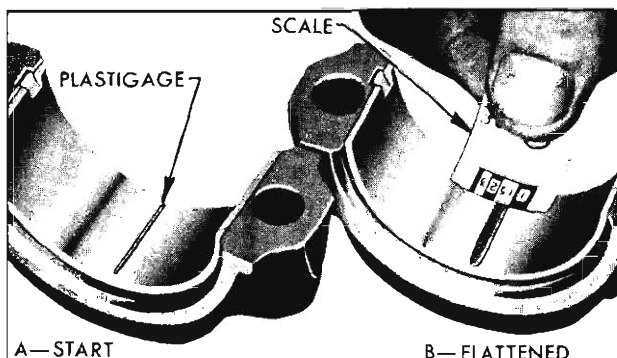

Fig. 3-126 Checking Bearing Clearance
2. Place a piece of Plastigage lengthwise along the bottom center of the lower bearing shell (Fig. 3-126, View A), then install cap with shell and tighten bolt nuts to 30-35 ft. lbs. torque.
5. Using the scale printed on the Plastigage envelope, measure the flattened Plastigage at its widest point. The number within the graduation which most closely corresponds to the width of Plastigage indicates the bearing clearance in thousandths of an inch. See Fig. 3-126, View B.